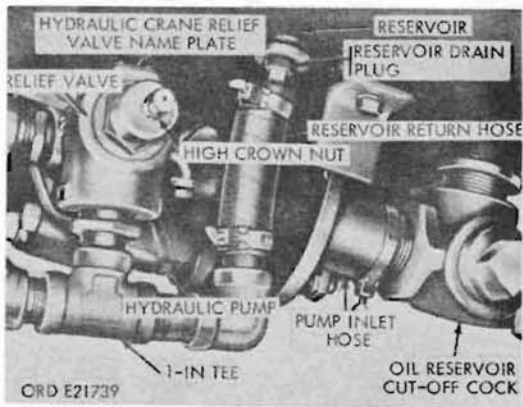

Figure 304. Relief valve, hydraulic pump and oil reservoir shutoff cock
- (3) Shutoff cock. The shutoff cock is attached to the underside of the oil reservoir, between the oil reservoir outlet port and the hydraulic motor inlet port.
- (4) Hydraulic pump. The hydraulic pump (fig. 304) on the M108 is connected to the transfer power-takeoff drive shaft. On the M60 the hydraulic pump is connected to one of the output shafts of the power-divider. The hydraulic pump is a balanced vane type having a constant rate of delivery per revolution. The slotted rotor is driven by a splined shaft and, a vane in each slot slides radially as the rotor revolves. Centrifugal force and fluid pressure cause the vanes to follow the inside cam contour of the hardened and ground spacer which is so shaped that two opposing pump chambers are formed between the body and pressure plate. Inlet flow is
- (5) Relief valve. The relief valve (fig. 304) is located on the underside of the oil reservoir, attached to the outlet port of the hydraulic pump. The relief valve is set at 1200 psi for the protection of the hydraulic working parts and at any time the pressure in the system reaches or exceeds 1200 psi, the relief valve reroutes the oil and returns it to the oil reservoir.